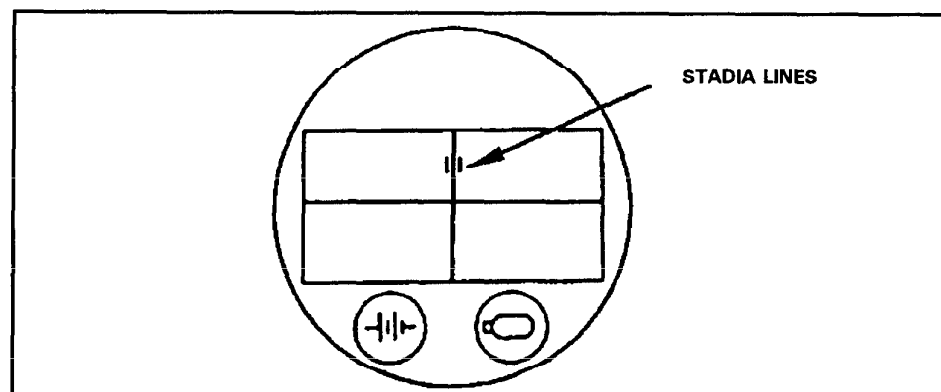

Figure 6-1. Stadia lines.
(1) *Nightsight method.* The reticle within the nightsight is marked with stadia lines on each side of the vertical crossline and just above the intersection of the vertical crossline and the horizontal crossline (Figure 6-1, page 6-2). Use these stadia lines to determine if a target is within range.